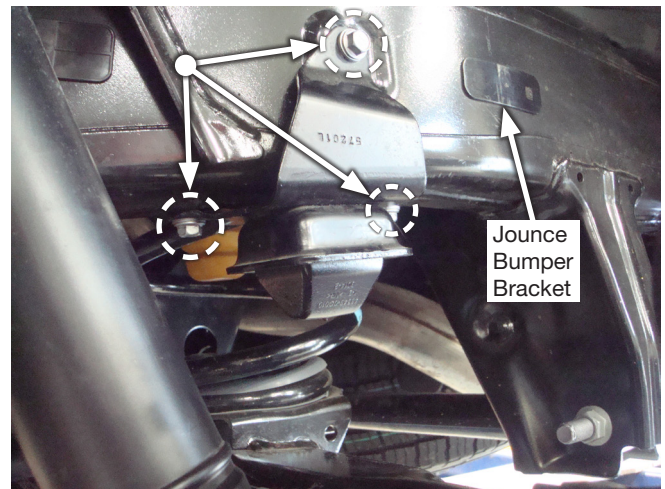

Fig. 3
2. Remove the three bolts and jounce bumper bracket from the frame (Fig. 3). Pry the hole cover off the frame above the axle on the side of the frame just behind the jounce bumper.